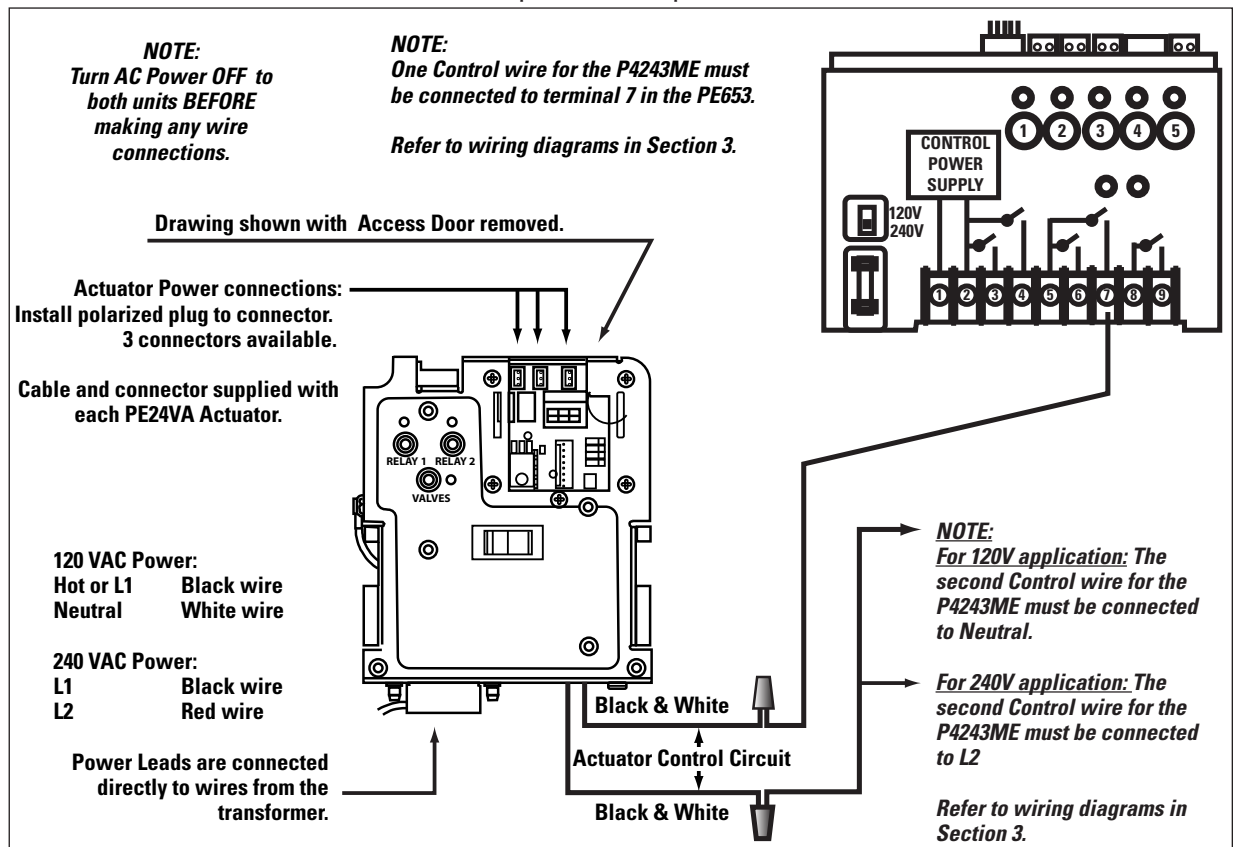

Figure 3-25
6. Connect the two Actuator Control wire leads as shown above in Figure 3-25.